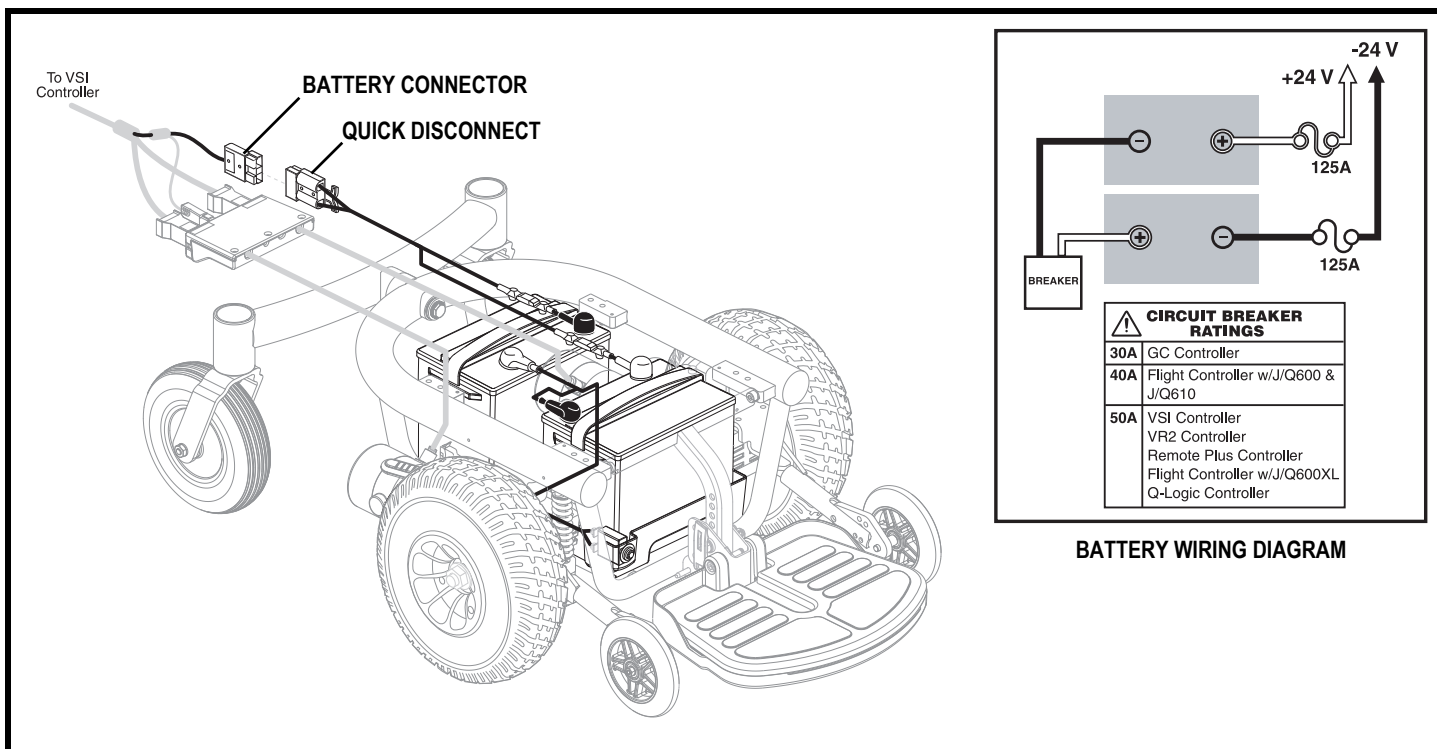

Figure 29. Quantum 1103 Ultra Battery Connections
A battery wiring diagram is printed on a decal located on the battery tray. See figure 29. See VI. "Batteries and Charging" for correct battery specifications.
5. Unplug the battery connector. See figure 29.
18. Connect the wiring harnesses to the front battery. See figure 29.
19. Connect the wiring harnesses to the rear battery. See figure 29.